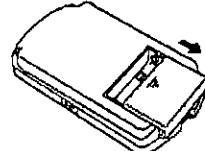

Fig.1
4. Insert 3 pieces of 'AAA' size batteries (not included) into the battery compartment (Fig 1).